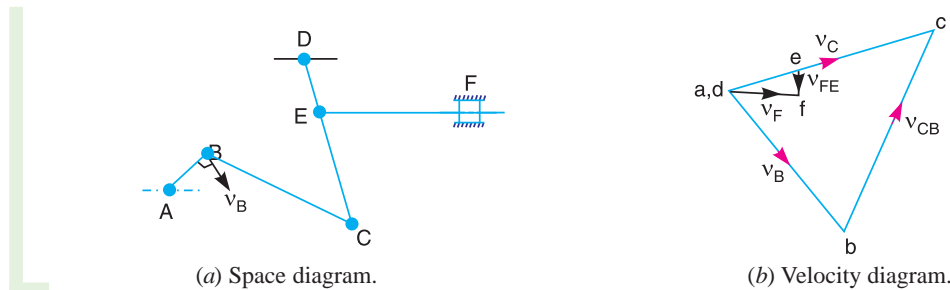

Fig. 7.12
First of all draw the space diagram, to some suitable scale, as shown in Fig. 7.12 (a). Now the velocity diagram, as shown in Fig. 7.12 (b), is drawn as discussed below:
1. Since the points A and D are fixed, therefore these points are marked as one point* as shown in Fig. 7.12 (b). Now from point a , draw vector ab perpendicular to AB , to some suitable scale, to represent the velocity of B with respect to A or simply velocity of B , such that
3. Since the point E lies on DC , therefore divide vector dc in e in the same ratio as E divides CD in Fig. 7.12 (a). In other words